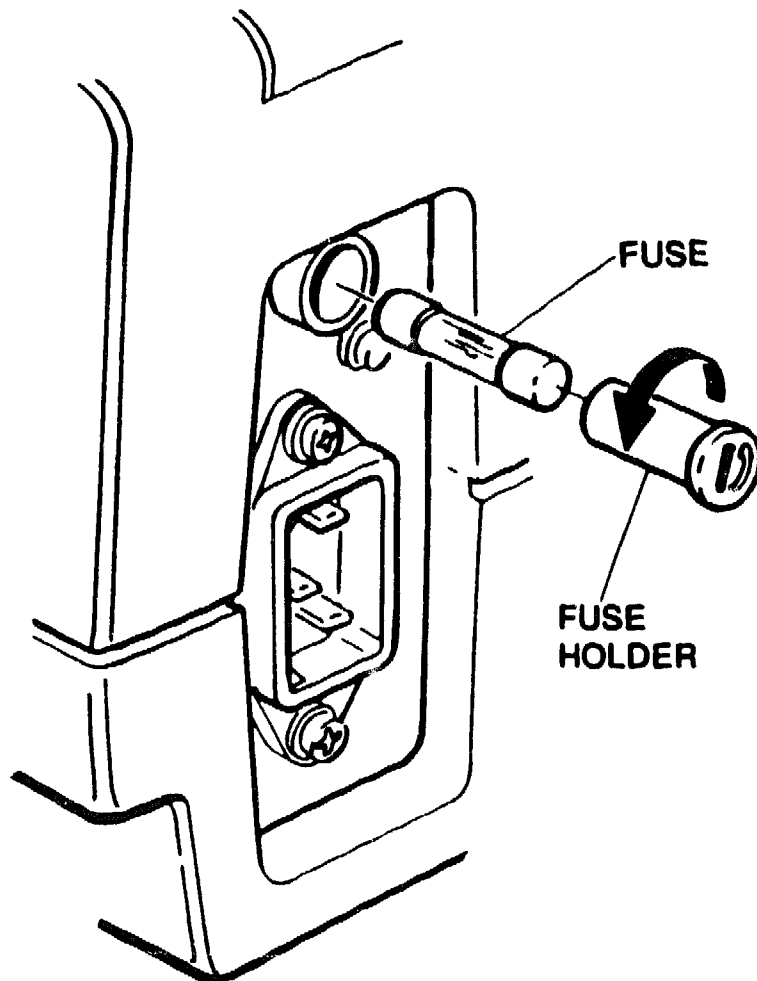

Figure 6-2 Removing AC Line Fuse
1. Turn the ac line fuse holder counterclockwise and remove it from the power plate (Figure 6-2).